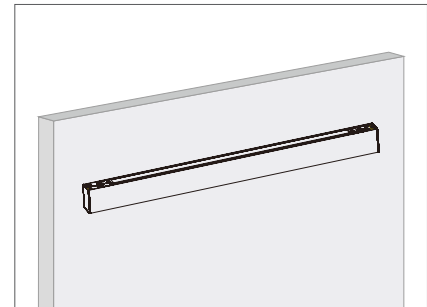

FIGURE 1-6
- 8) Installation is complete. (Figure 1-6)